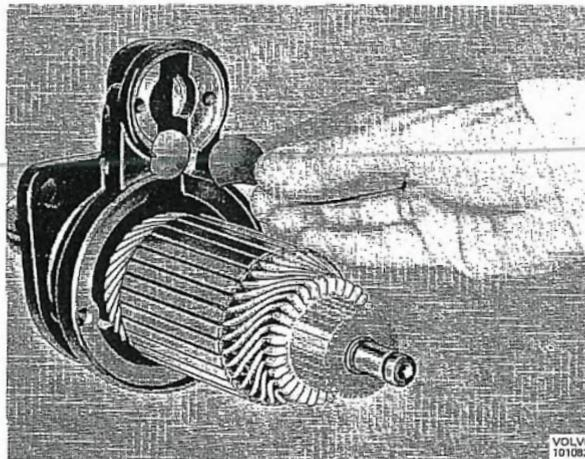

Fig. 3-62. Removing sealing washer
9. Remove the rubber washer and metal washer, see Fig. 3-62.